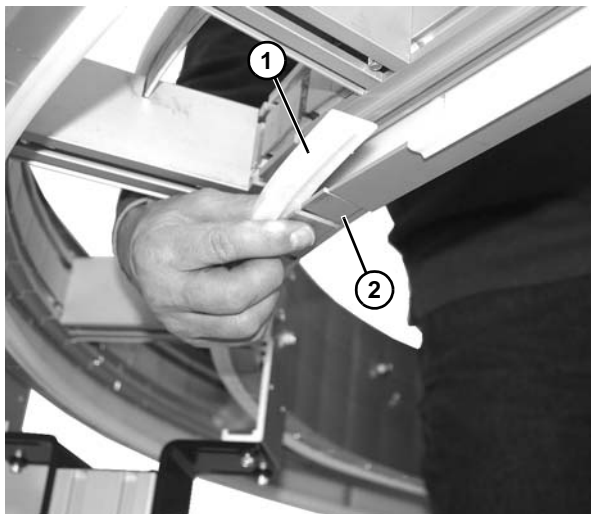

Figure 43
1. Slide J-leg wear strips (**Figure 43, item 1**) from lower frame (**Figure 43, item 2**).